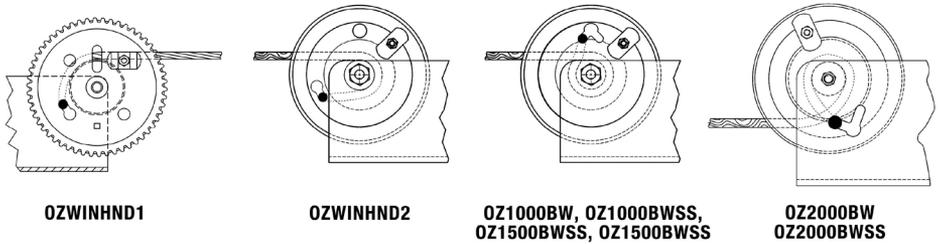

**Figure 4.1**
7. Manually spool at least four full wraps of cable onto the winch drum. There must be at least four full anchor wraps of cable on the winch drum at all times. (See Figure 4.1)